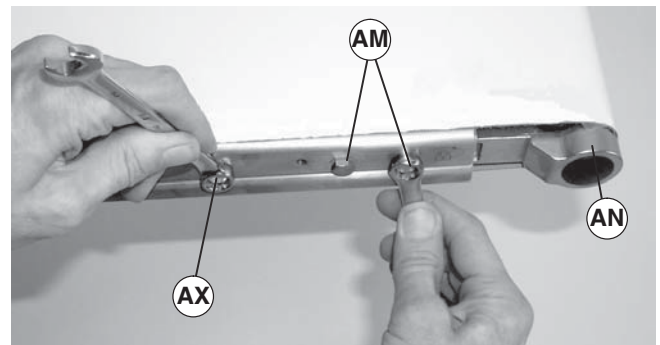

Figure 27
1. On tension end of the conveyor, loosen two M6 hex head cap screws (Figure 27, item AM) on each side of conveyor.
3. Repeat steps 1 and 2 for screw (Figure 27, item AX) and (Figure 33, item AX) on opposite side of conveyor.
4. Remove two M6 hex head cap screws (AM) from each side of conveyor.